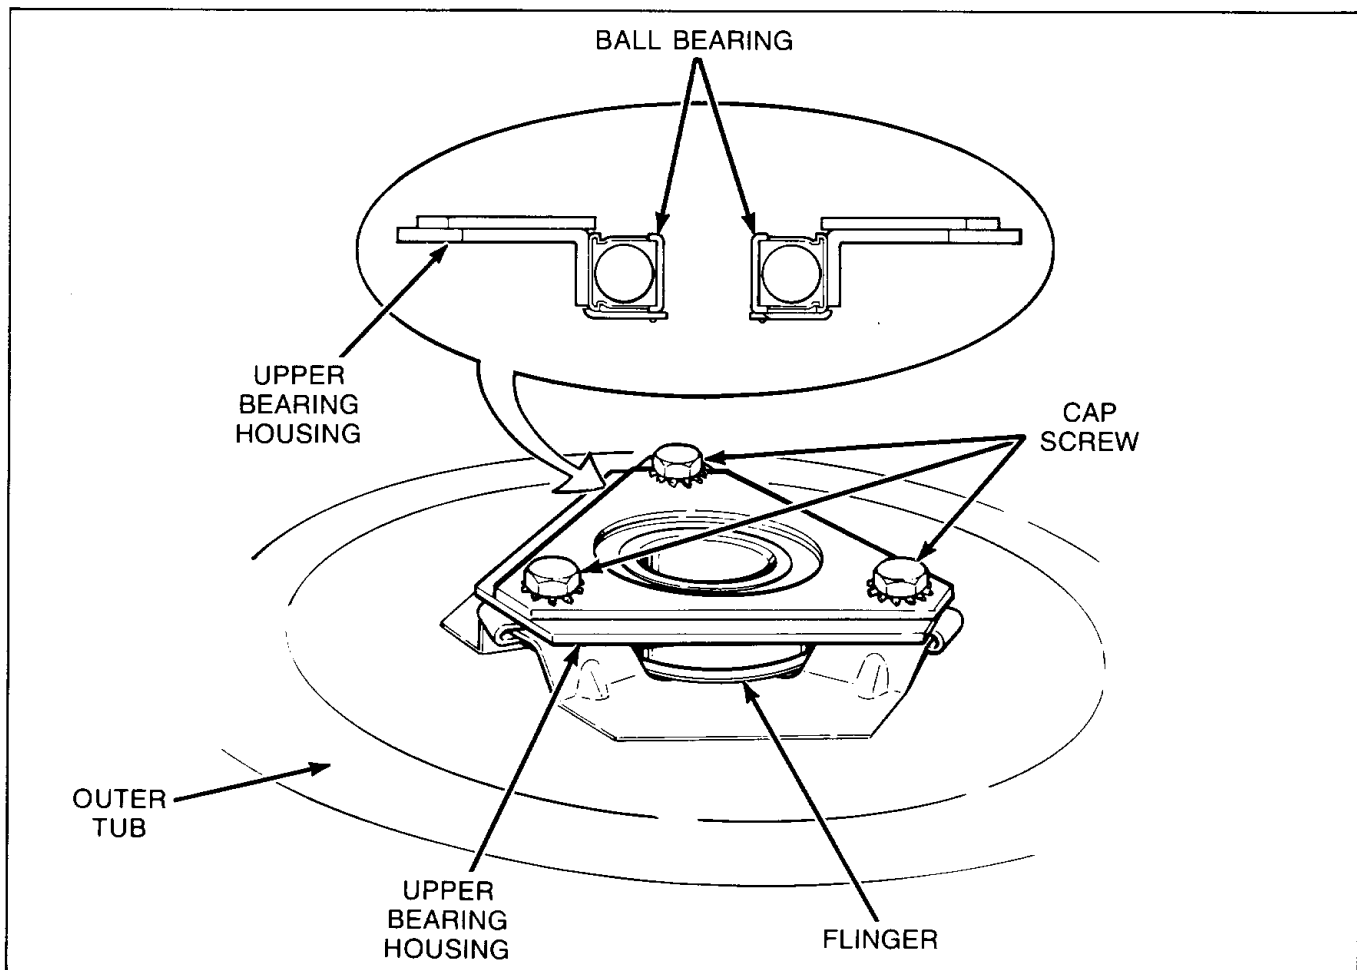

Figure 34
- c. Remove three cap screws holding upper bearing and housing to bottom of outer tub, *Figure 34*.
**NOTE:** Replace bearing and housing as an assembly, and be sure flinger is properly positioned between the outer tub and bearing assembly, *Figure 34*.